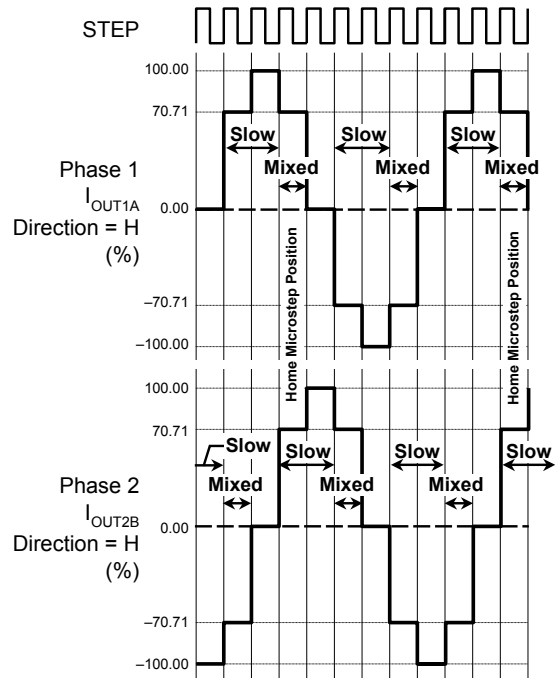

Figure 3. Decay Modes for Half-Step Increments
**Mixed Decay Operation.** The bridge can operate in Mixed Decay mode, depending on the step sequence, as shown in figures 3 through 5. As the trip point is reached, the A3983 initially goes into a fast decay mode for  $31.25\%$  of the off-time,  $t_{\text{OFF}}$ . After that, it switches to Slow Decay mode for the remainder of  $t_{\text{OFF}}$ .